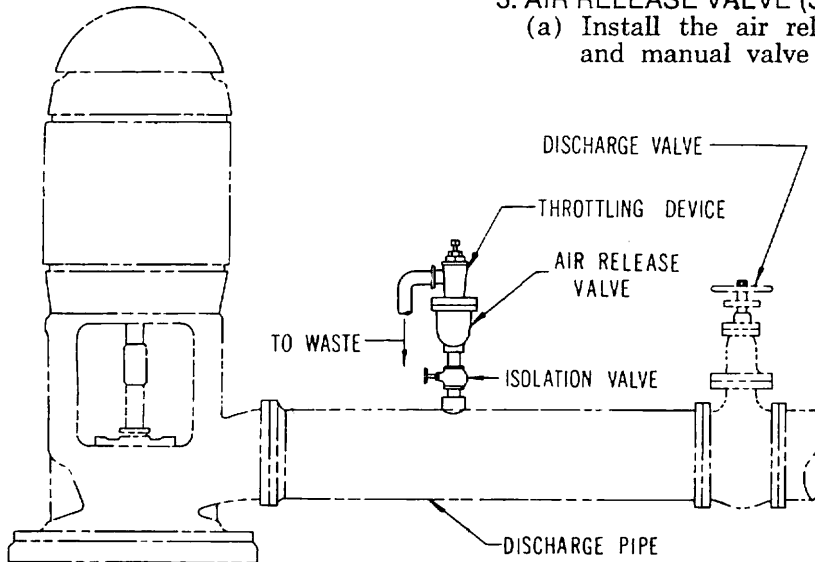

FIG. 28 - TYPICAL ARRANGEMENT OF AIR RELEASE SYSTEM
3. AIR RELEASE VALVE (See Fig. 28)